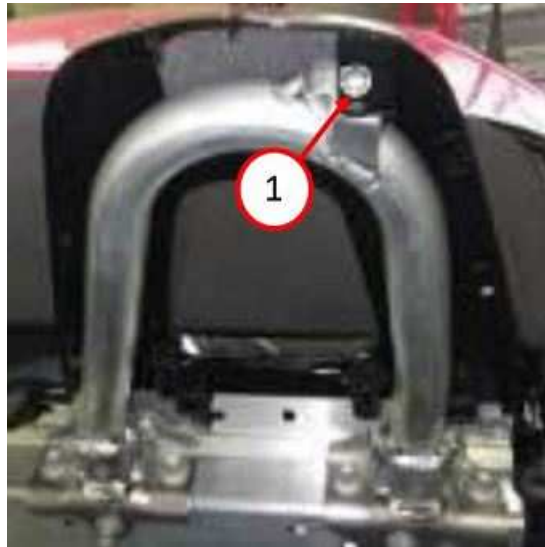

Fig. 11
18. Loosen the screw of the seat back roll bar trim panel (Rear) (Fig. 11) .